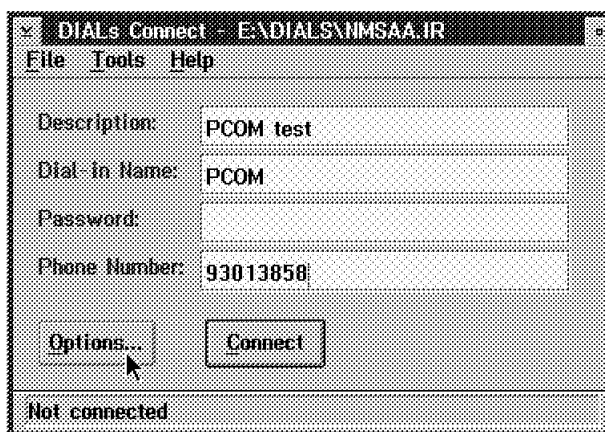

Figure 242. 8235 Client Connection Panel
2. Fill in the panel as shown in Figure 242.